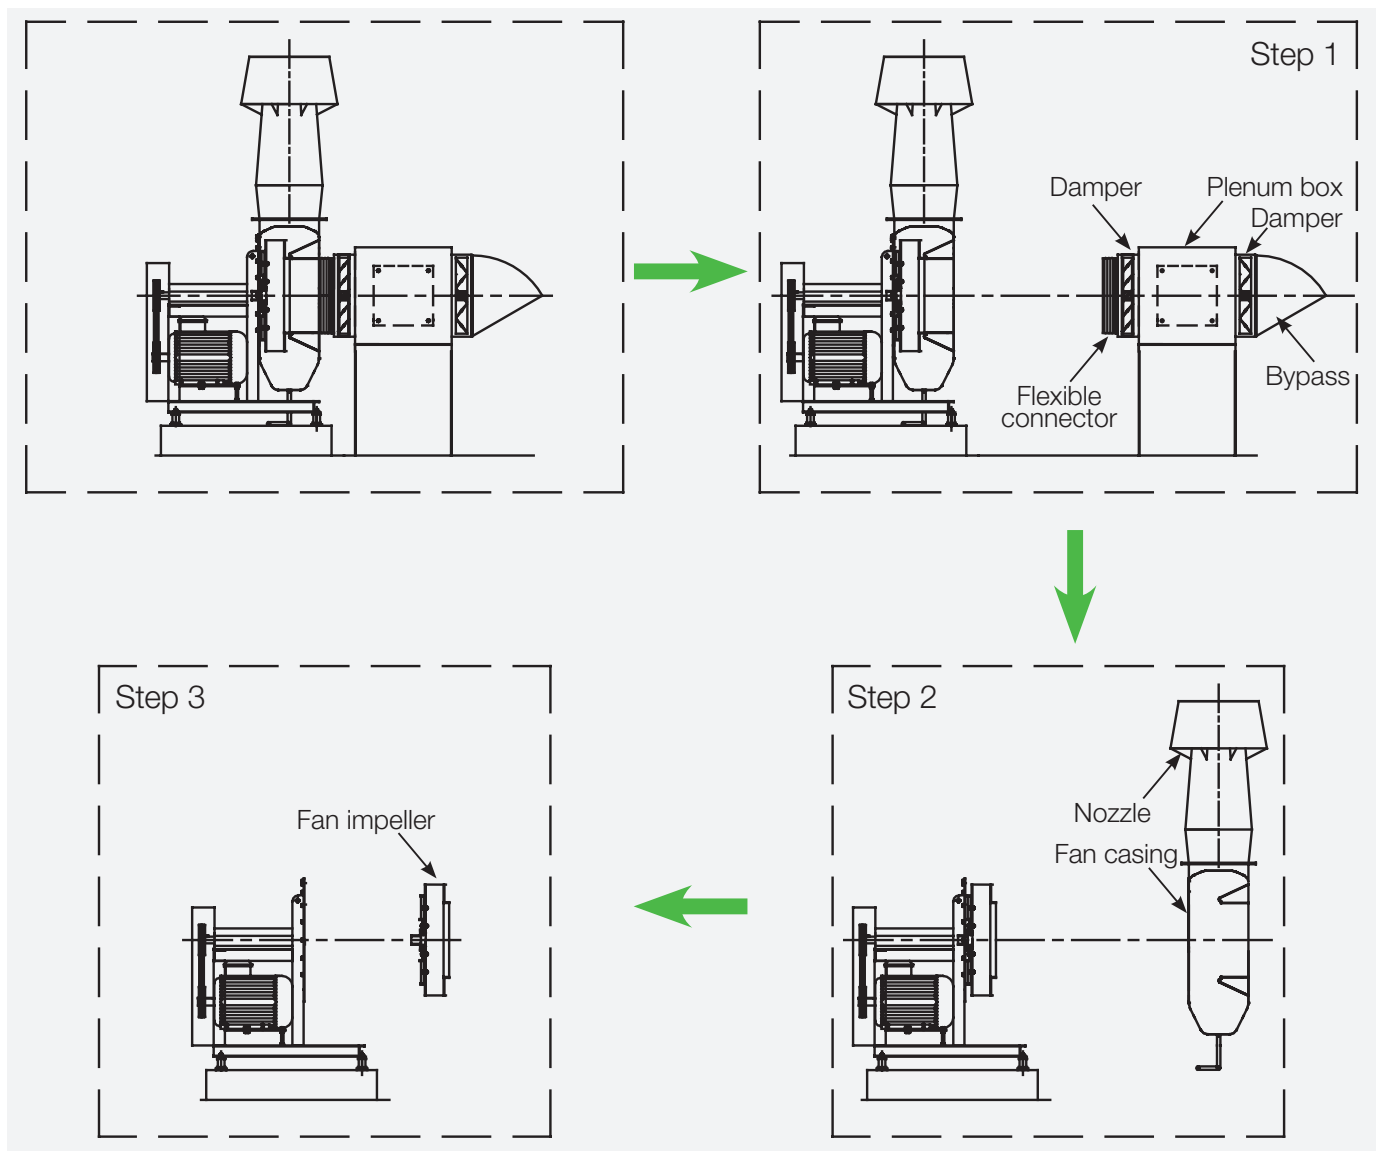

Figure 5) Removing Impeller - CHEM Series
- h) Remove the fan impeller from the motor shaft (refer to Figure 5)